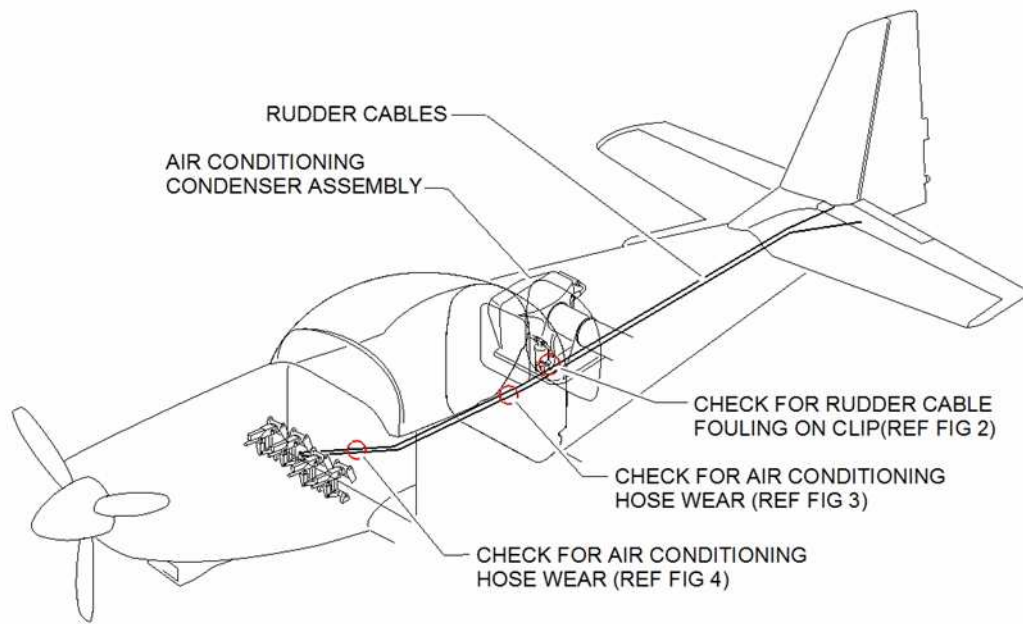

Figure 1 Areas of inspection
- (1) Inspect the areas of potential rudder cable fouling and air conditioning hose wear, refer to Figure 1.